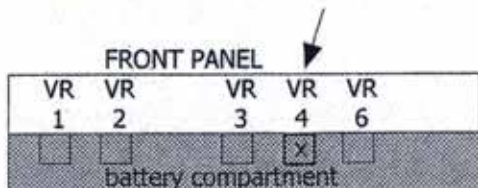

Fig. 2
- (4) Adjust the " Calibration Adjust Pot "(VR4, Fig. 2), located within the battery compartment, until the display indicates the value of the calibration solution.